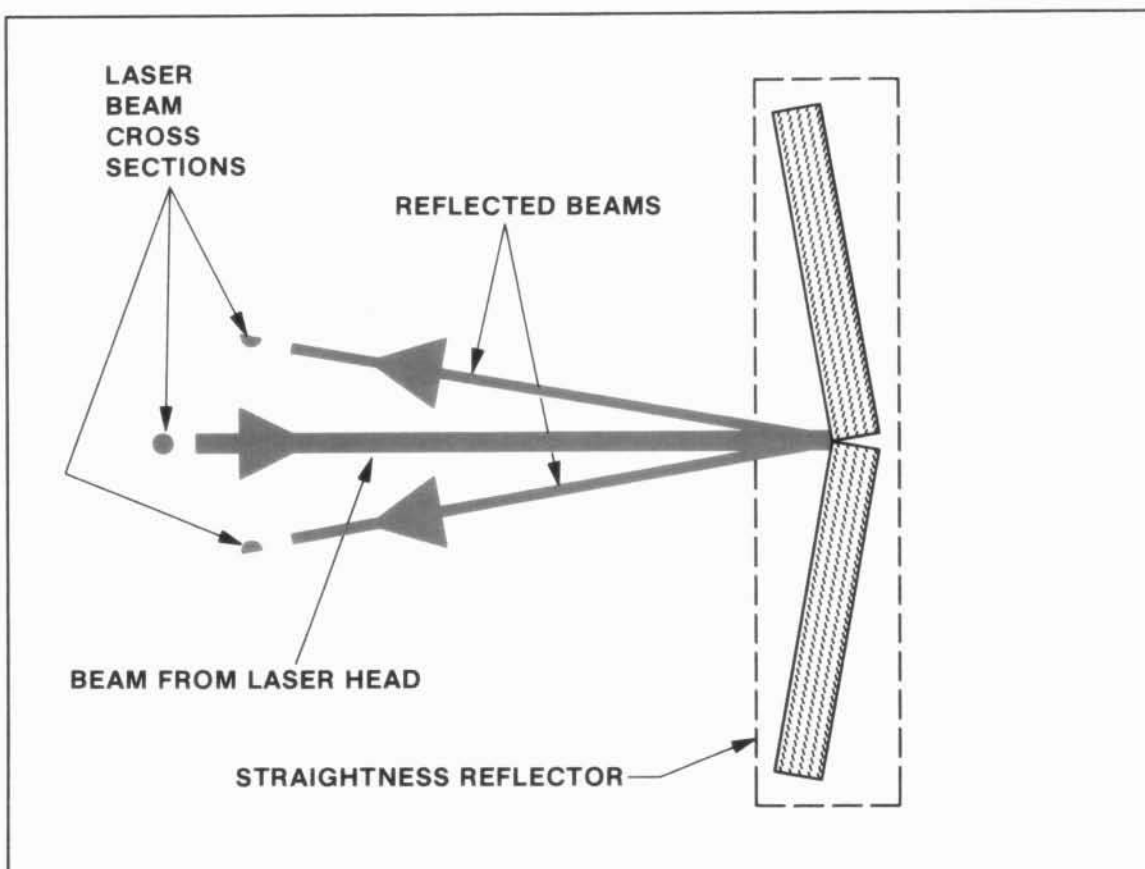

Figure G-11. Reflected Semicircular Beams
- c. Remove the interferometer from its mount if not already done. Select the large aperture on the laser head by rotating the front turret. The laser beam should strike the center of the reflector. When properly centered the laser beam will be reflected back as two semicircles. See *Figure G-11*.